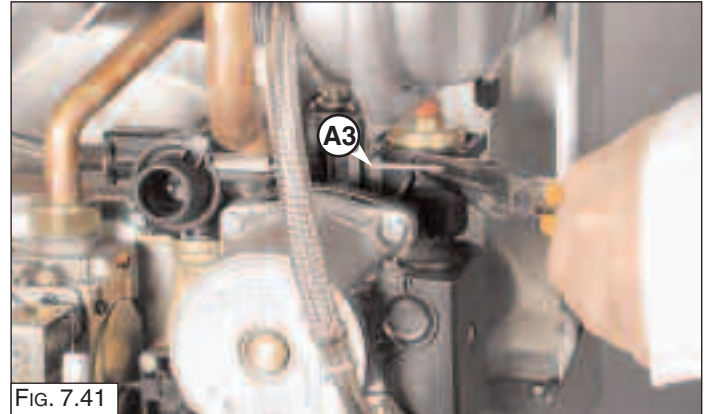

FIG. 7.41
1. Remove the U-clip "A3" (Fig. 7.41);